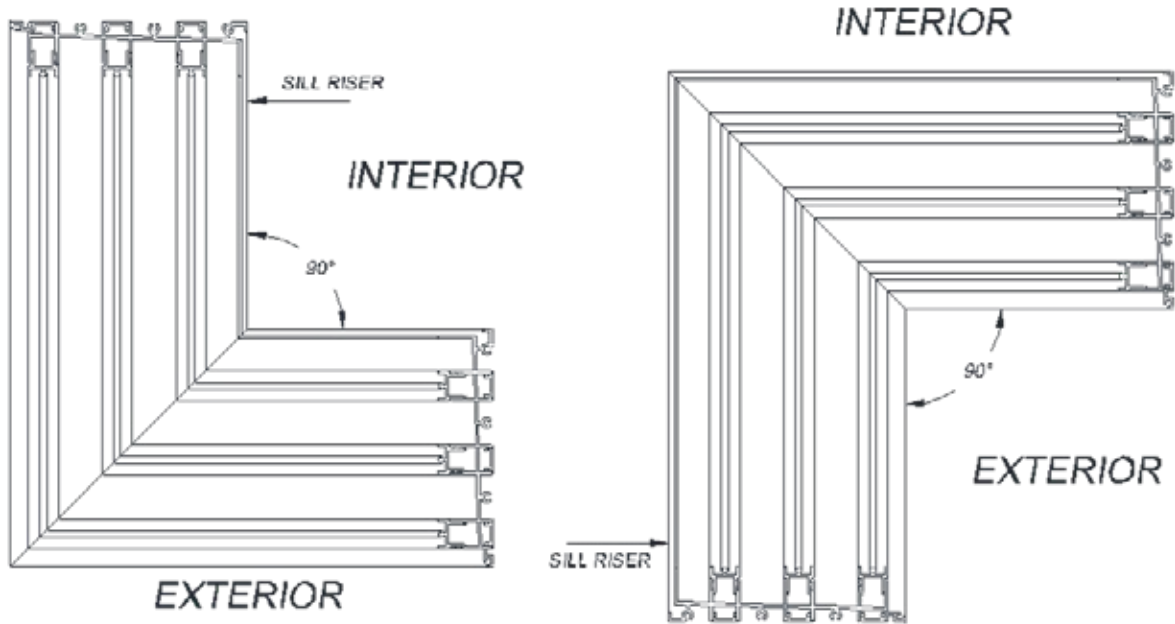

Figure 32
1. **Determine** whether the unit is an outside or inside corner using the sill riser as a guide and verify that the frame is facing the correct exterior direction. The sill riser will always remain facing the interior of the opening (Figure 32).